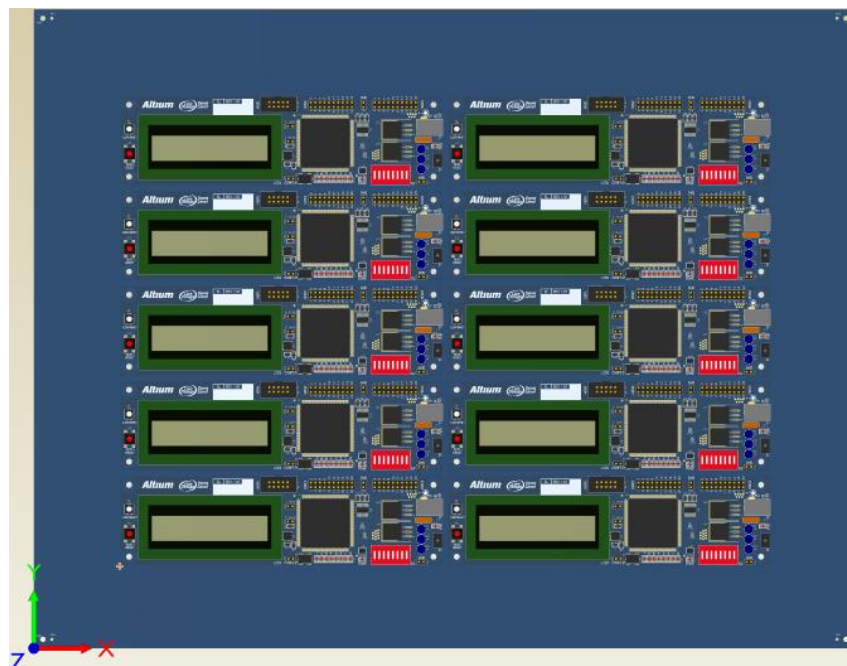

Figure 5. 3D view of the panel
16. Switch to the 3D view of the PCB by hitting the **3** key. Note the one solid PCB with ten instances of the 1SL1 Xilinx Spartan-11E PQ208.PcbDoc is shown in Figure 5.